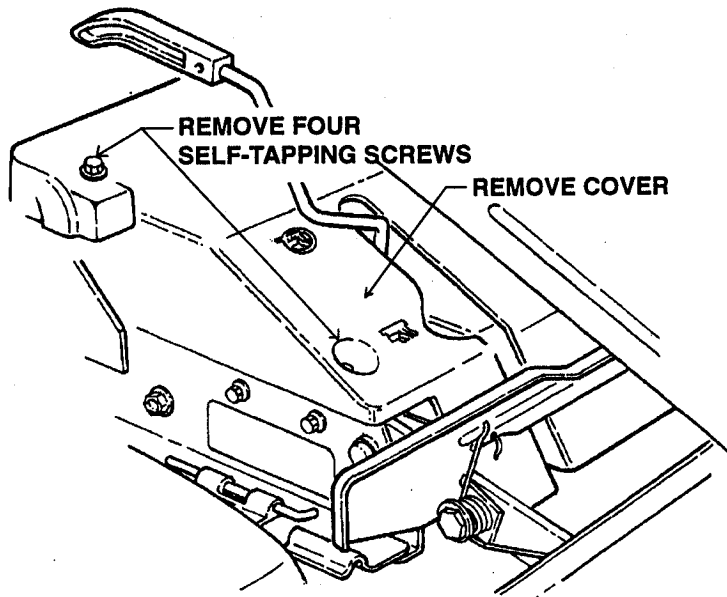

FIGURE 3.3
- b. Remove four self-tapping screws, two on each side of mower drive belt cover. See Figure 3.3.